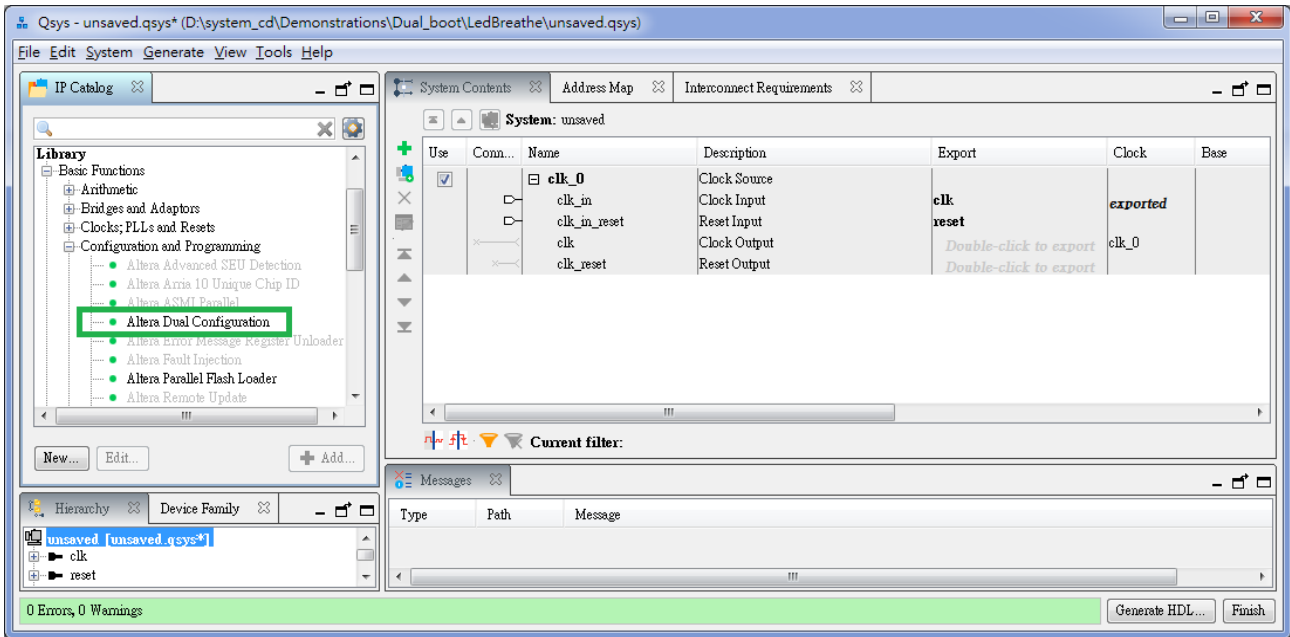
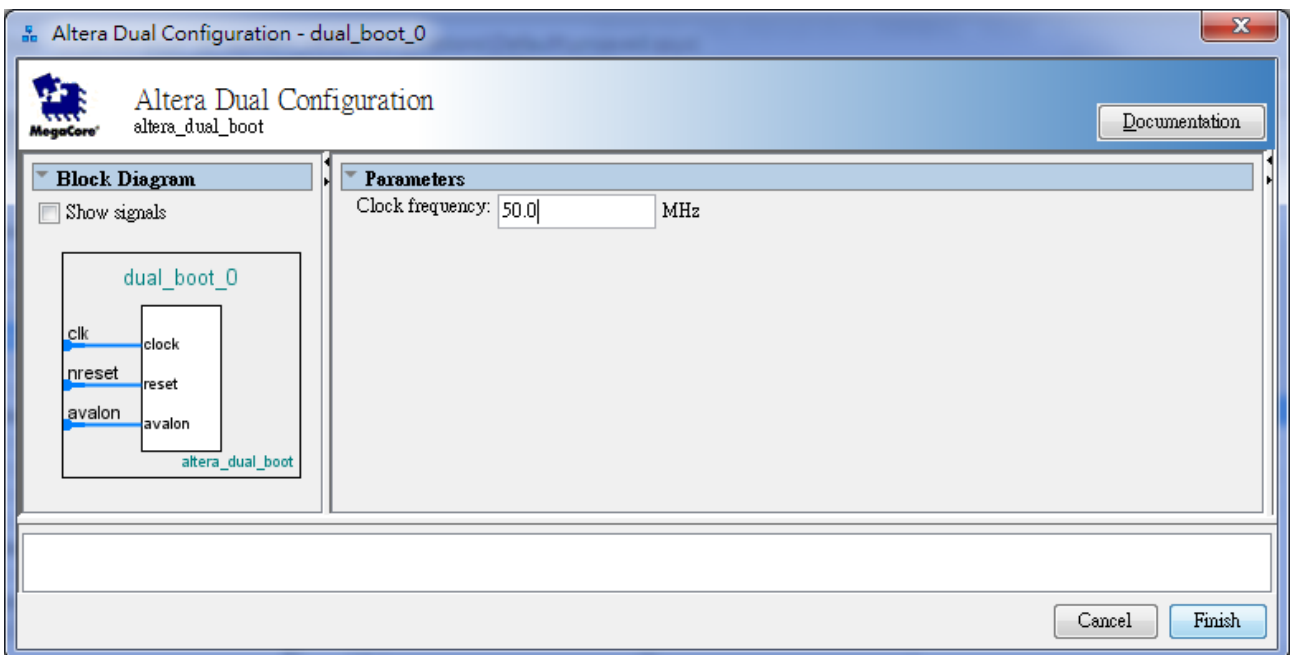

Figure 6-5 Select Altera Dual Configuration IP and click.
Figure 6-6 Open wizard and click Finish.
- Please choose **Library > Basic Function > Configuration and Programming > Altera Dual Configuration** to open wizard of adding dual boot IP. See **Figure 6-5** and **Figure 6-6**.